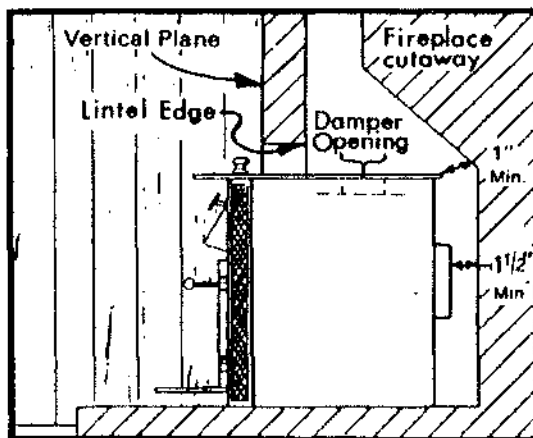

FIGURE 3 STOVE POSITIONING
When positioning the stove, the following conditions **MUST** be met! (See Figure 3)
1. The front of the damper opening must be positioned **BEHIND** the rear edge of the lintel to ensure proper draft. (See Figure 3)
After the **BUCK STOVE** is positioned, as shown in Figure 3, mark the mounting position of the trim panels as follows: